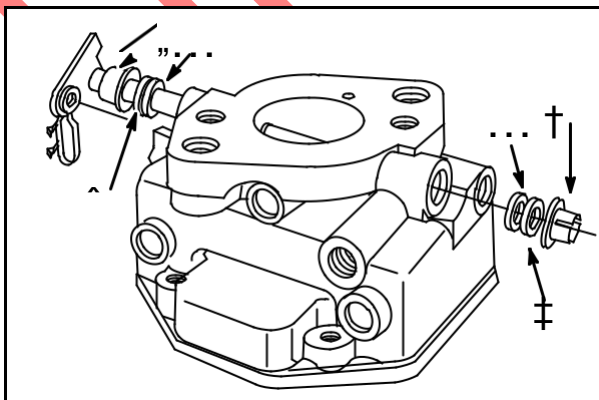

Fig. 107
Install new throttle shaft seals (5) with sealing lip out, **Fig. 107**.